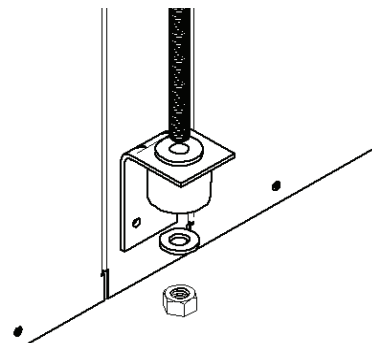

Fig. 6 — Unit Hanging
3. Install rubber grommet on the bracket as shown in Fig. 6.
4. Hang the unit and assemble the field provided thread rod, nuts and washers on to the brackets as shown in Fig. 6.